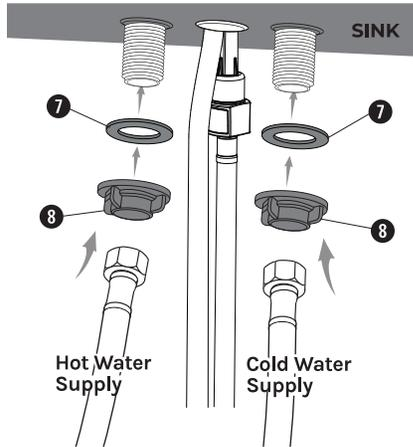

Fig. 13
1. Insert the **Large Washers** 7 and **Mounting Nuts** 8 onto the left and right hose shank on the faucet, and tighten both **Mounting Nuts** 8 (see Fig. 13).
2. Install new water supply lines according to the manufacturer's installation instructions. **DO NOT** reuse existing supply lines. (see Fig. 13).